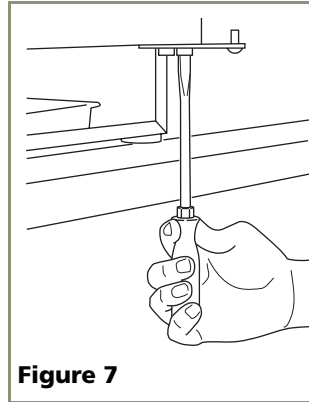

Figure 7
5. Remove bottom hinge from cabinet (four screws) and screws on opposite side of cabinet. See **Figure 7**.